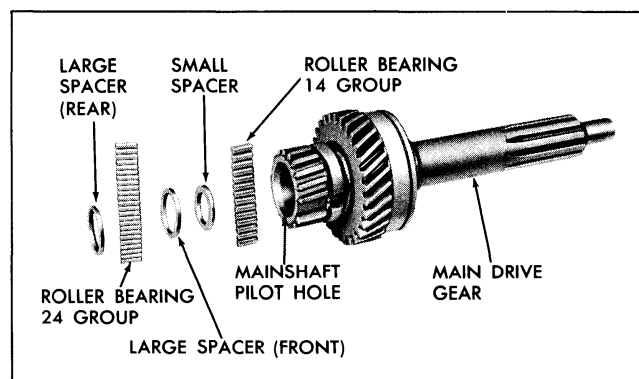

Fig. 7-34 Main Drive (Clutch) Gear Assembly
14. Apply cup grease to pilot hole in main drive (clutch) gear to retain pilot bearing rollers (Fig. 7-34).